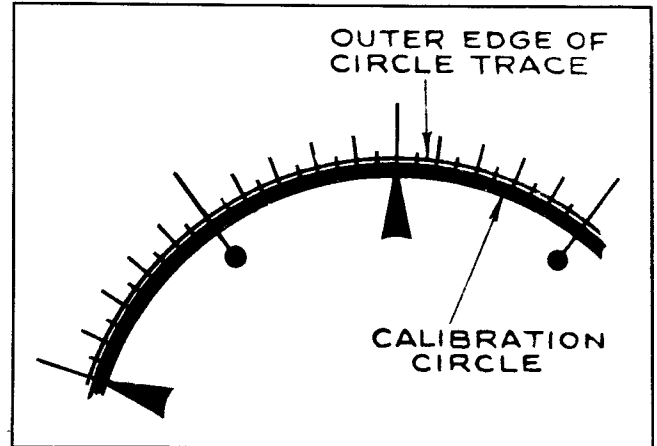

Figure 5-4. Indicator I-152-A — Circle Size
(6) Adjust the shape control R227 so that the horizontal and vertical axes are equal. The pattern following these operations should now approach a circle.
b. ADJUSTMENT OF CIRCLE SIZE. — Rotate "CIRCLE SIZE" control R214 to increase or decrease the size of the circle so that its size corresponds to the reference circle appearing on the calibrated scale. See figure 5-4 for suggested size.
(1) Repeat adjustments on the primary and secondary of T203 and of the shape control R227 until a circle trace with the minimum amount of distortion results.